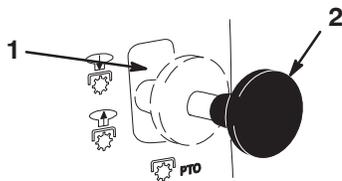

Figure 5
2. Pull the blade control (PTO) to **on** (Fig. 5).
2. Push the blade control (PTO) to off (Fig. 5).
3. Push the blade control (PTO) to **off** (Fig. 5).